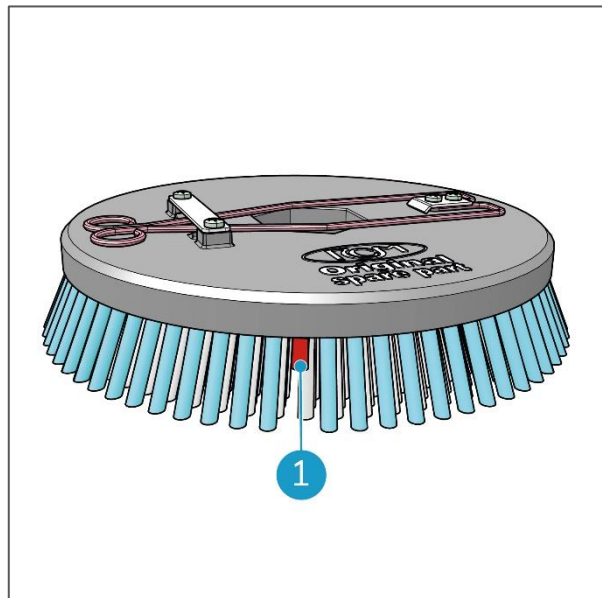

Figure 11
Make sure to check the condition of the disc brush before use. Check the red indicator mark before you start (Figure 11, pos 1). See section 7.4.4. Make sure the machine is completely turned off when replacing the disc brushes.